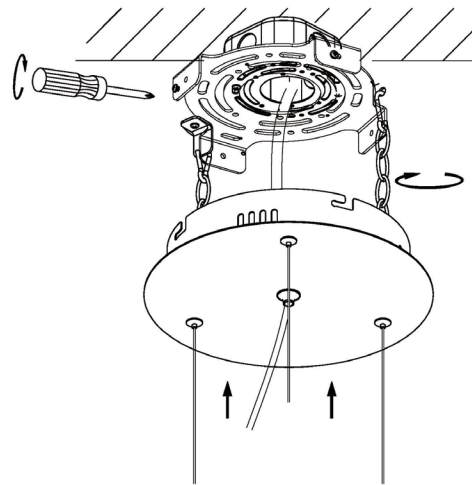

Figure 4
5. Keep the Slot hole as vertical line with Side screw, put the lamp body upward. And make screw into slot, rotate Canopy and make Mounting Bracket and Canopy fixed. See figure 4.